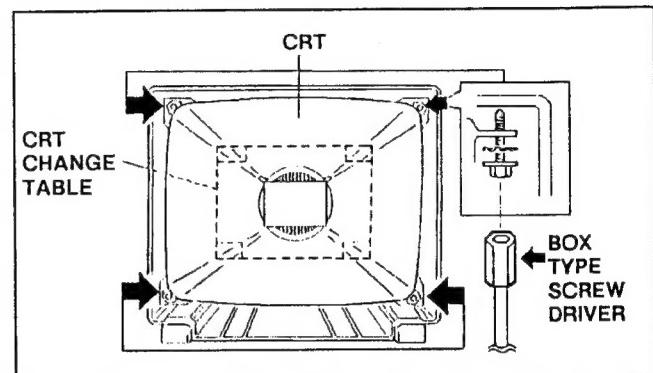

Fig. 4
- 2. While keeping the surface of CRT down, mount the TV set on the CRT change table balanced will as shown in Fig. 4.
- 3. Remove four screws marked by arrows with a box type screw driver as shown in Fig. 4.